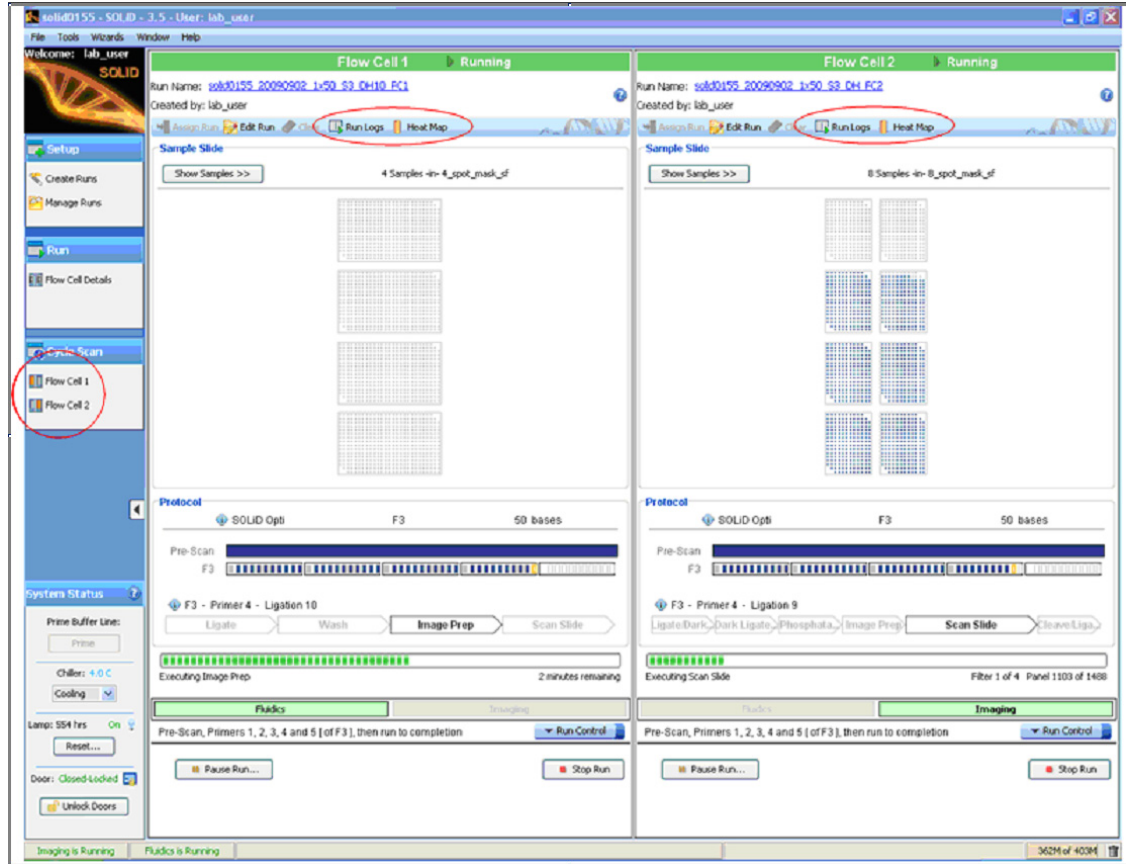

Figure 59 How to learn more about the current run.
- After the run has been initiated, you can click the **Run Log** and **Heat Map** buttons located at the top of the appropriate flowcell panel to learn more information about the current run Figure 59 on page 65. You can also use select the appropriate flowcell in the Cycle Scans menu on the task bar on the left